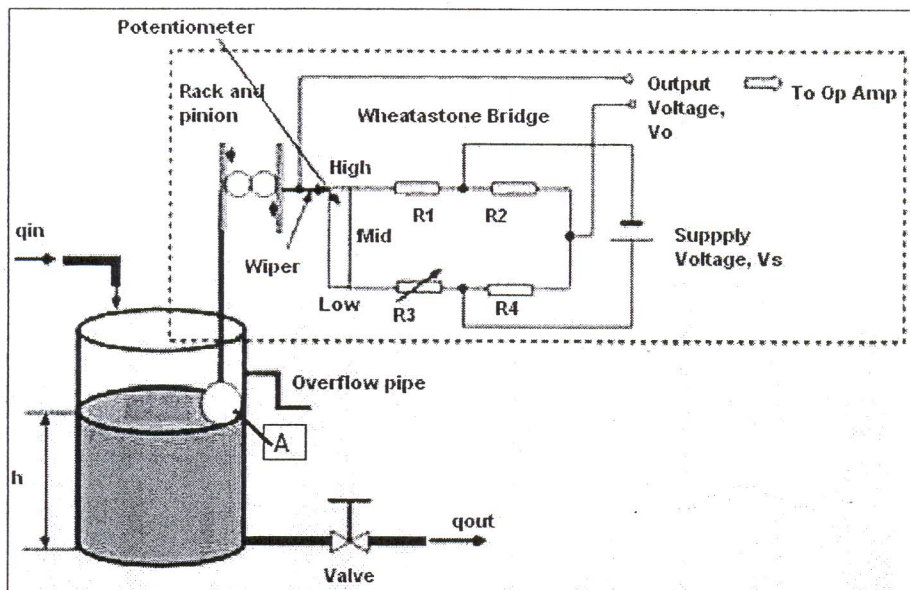

Figure 8: Tank Level System Control
(a) **Figure 8** shows Wheatstone bridge application with tank level transmitter system.
- i. State type of level sensor A used in **Figure 8** (2 marks)